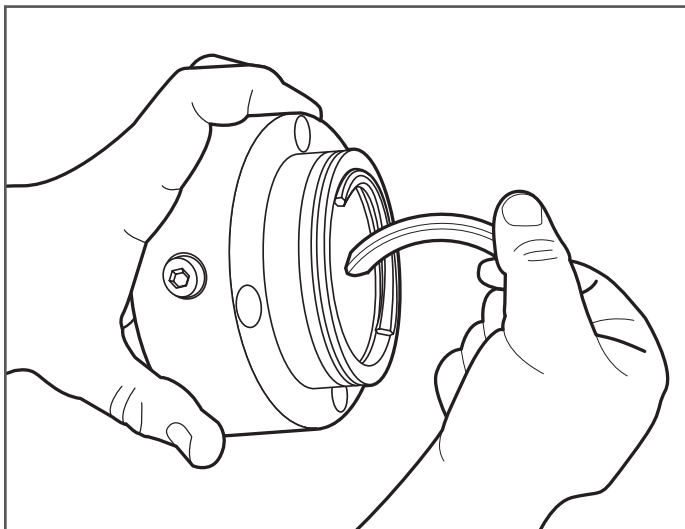

Figure 7-12
- 13.** Remove split rings from middle section of DoubleTrac® fitting (Figure 7-12).